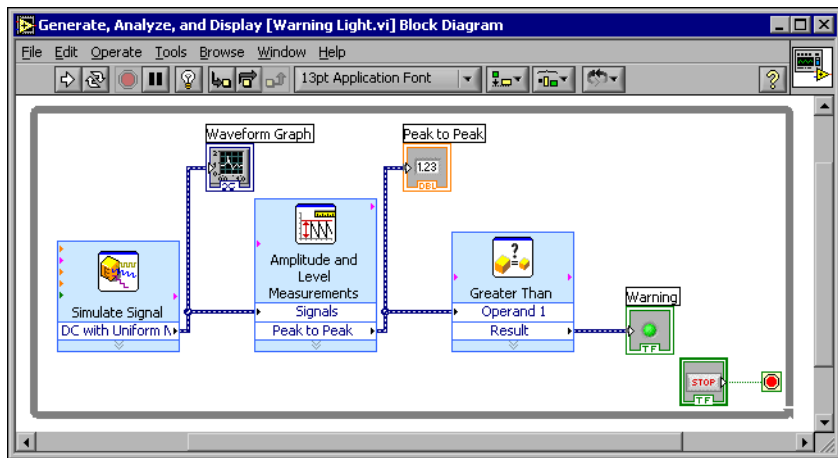

Figure 2-5. Block Diagram for the Warning Light VI
1. On the block diagram, move the **Warning** terminal to the right of the Comparison Express VI. Make sure the **Warning** terminal is inside the loop, as shown in Figure 2-5.
The block diagram should appear similar to Figure 2-5.